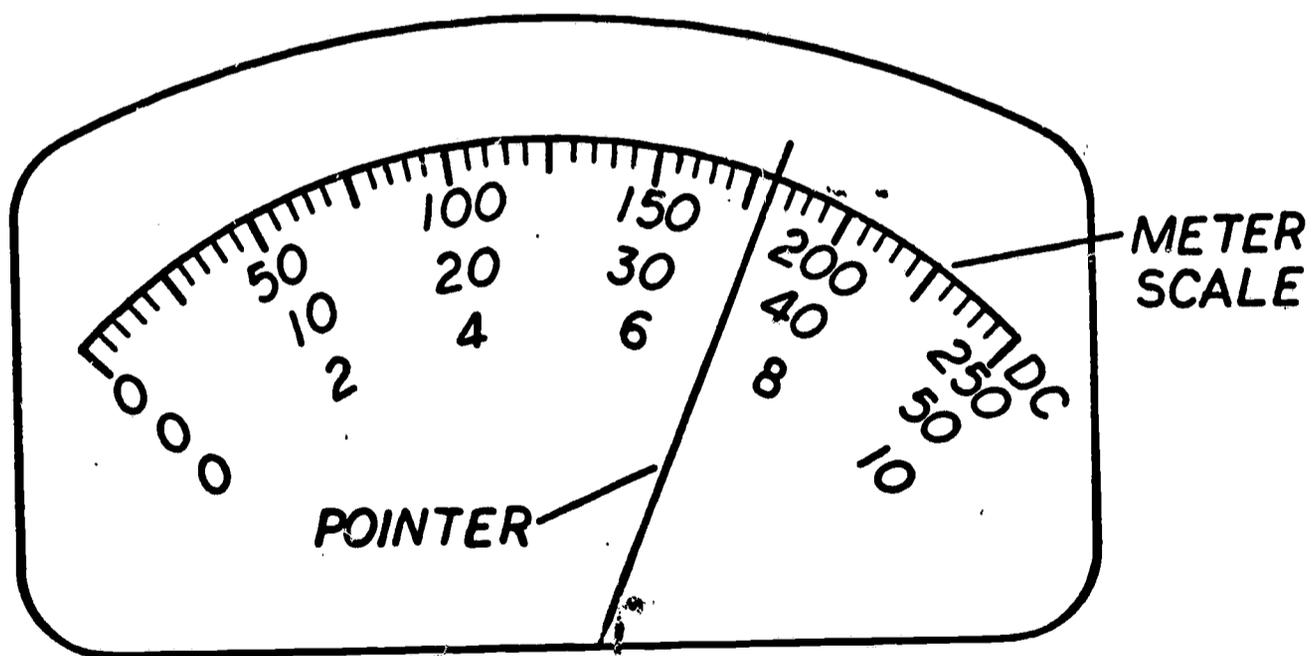

FIGURE 1.
2. Look at the METER SCALE on your VOM. On most VOM's the D.C. voltage scale is printed in black. On the scale below (see figure 1) the scale reads from 0-250, from 0-50, and from 0-10. What does the D.C. scale on your VOM read? Answer here: _____,